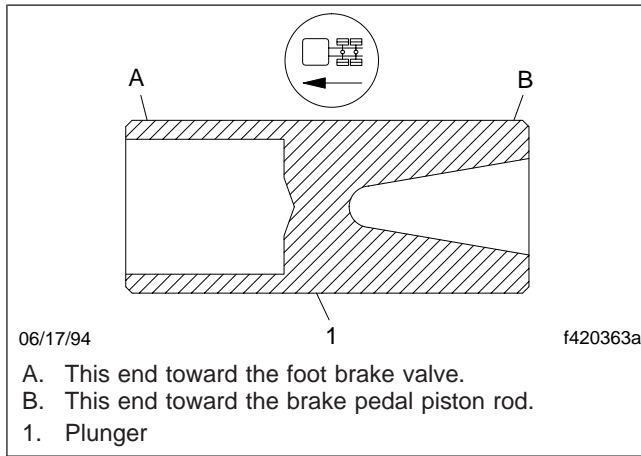

Fig. 3, Brake Plunger
3. Thoroughly clean any grease and contaminants from the brake valve mounting adaptor bore and the plunger surface. See **Fig. 3**.